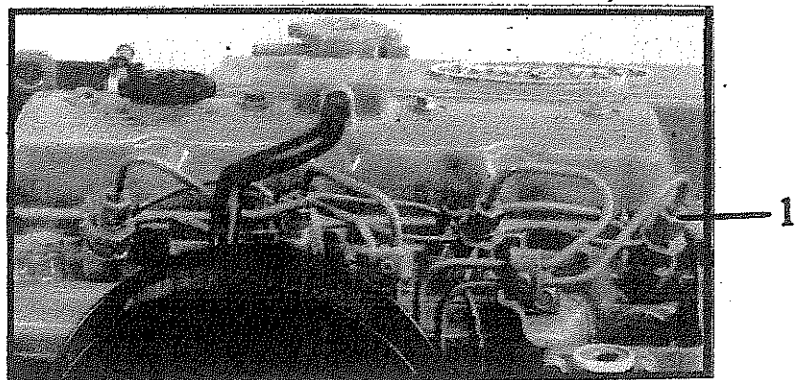

Figure 16
- e) Slacken off the four injection tubes (1) in Figure 16, turn the ignition key to the "START" position and operate the engine until air bubble free fuel spurts out of the four injection tubes. Then, tighten up the four injection tubes (Fig. 16).